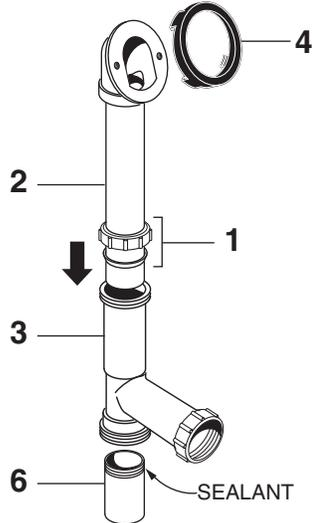

FIG.1
- Loosen SLIP JOINT NUT & SEAL (1) and install onto OVERFLOW TUBE (2). Install OVERFLOW TUBE ASSEMBLY (2) into the appropriate leg of the DRAIN TEE (3). Apply sealant to threads of TAILPIECE (6) and thread into DRAIN TEE (3). Install OVERFLOW GASKET (4) to OVERFLOW TUBE ASSEMBLY (2). (Adjust OVERFLOW GASKET (4) to contour of tub. FIG. 1.
Note: Waste outlet can be installed either above the floor or below floor. Fig.1.